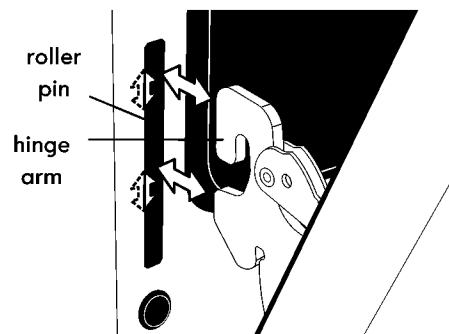

Figure 58: Location of hinge arm and roller pin
5. With the oven door in the stop position, lift the oven door hinge arms over the roller pins located on each side of the oven frame (Figure 58).
2. Holding the oven door at the same angle as the removal position, seat the hook of the hinge arm over the roller pins located on each side of the oven door frame (Figure 58). The hook of the hinge arms must be fully seated onto the roller pins.